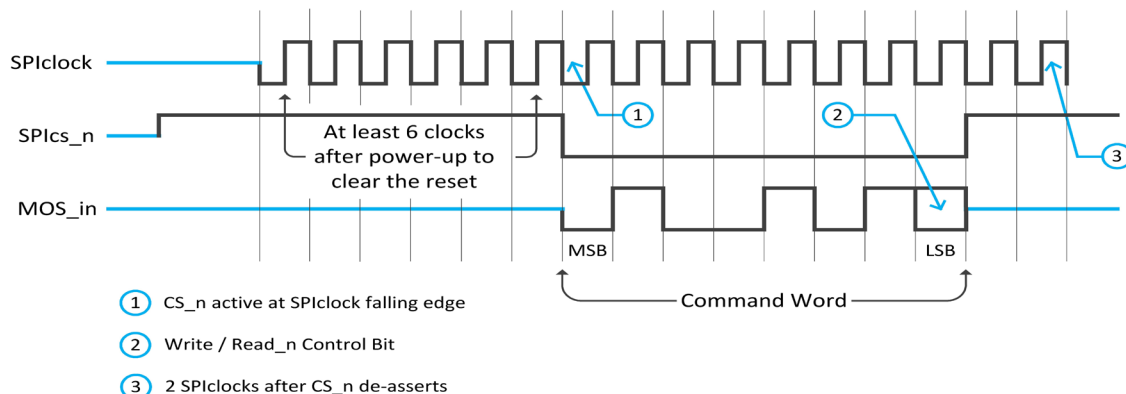

Figure 10: SPI Reset and General Timing
Figure 10 illustrates the SPI port reset and general timing. When the Crosspoint switch is powered, its internal power-on reset (POR) places the SPI port in a reset condition. The user must supply at least 6 clocks to bring the part out of reset. The chip select signal (SPIcs_n, active low) is asserted at the falling edge of SPIclock ①. In a SPI transaction, a command word is issued first. Its 7 most significant bits address the control register in question, while the least significant bit indicates whether a read or write operation is requested. A data word follows the command word to be written, or the results of a read, and will be shown in detail in the following sections. Upon completion of a command or data transaction, a minimum of two SPIclock cycles are required to register the transaction. The order and number of READs and WRITEs is not critical to SPI port operation. SPIclock can and should be stopped after communication is complete.